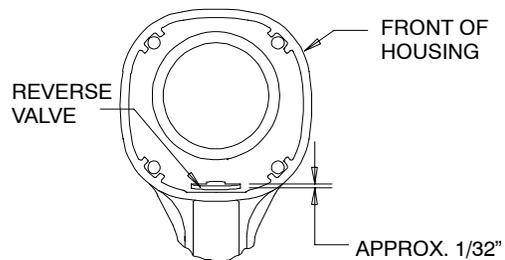

Figure 10
3. When the Reverse Valve has been installed, rotate the Reverse Valve so that the tab on the Reverse Valve is at the rear of the Housing. Refer to Figure 10.